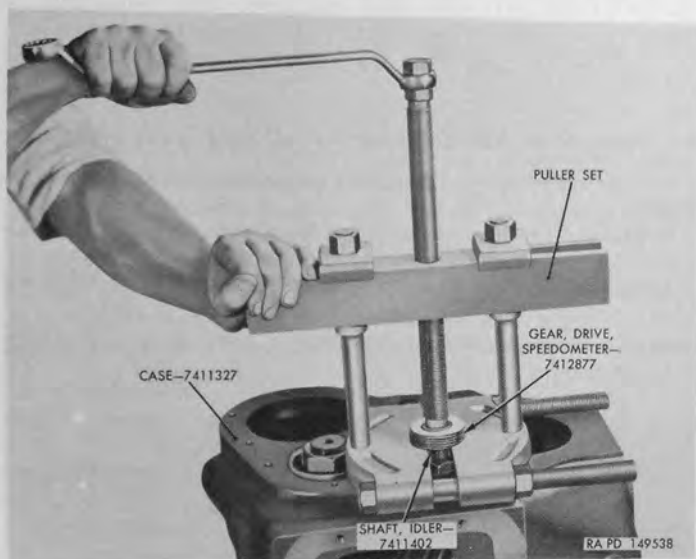

Figure 56.—Removing speedometer drive gear using puller set 41-P-2905-60.
b. Remove three bolts and lock washers which attach idler shaft front bearing retainer (BG) to transfer case; then remove retainer and retainer gasket (BL).
c. Remove speedometer drive gear (BJ) from idler shaft as shown in figure 56. Turn puller screw to remove gear from idler shaft.